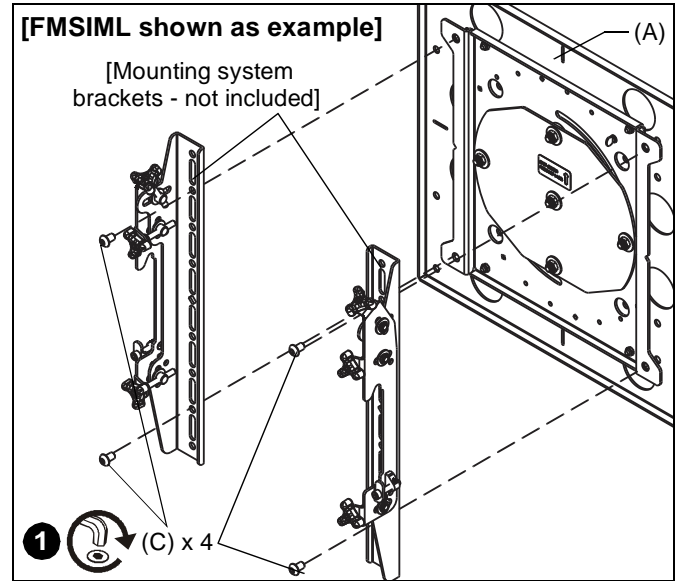

Figure 2
2. Install mounting system brackets to the FRA accessory (A) using four 5/16-18 x 1/2" button head cap screws (C). (See Figure 2)